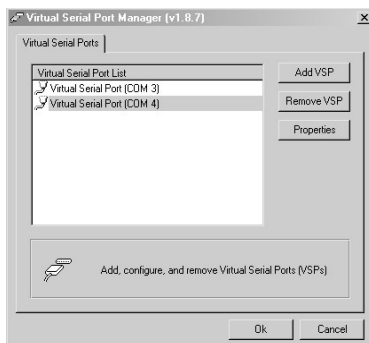

Figure 10: The Virtual Serial Port Properties Window (COM 3 and COM 4)
4. You can set a virtual port for each local port on your **VS-161HDMI** (see Figure 10).